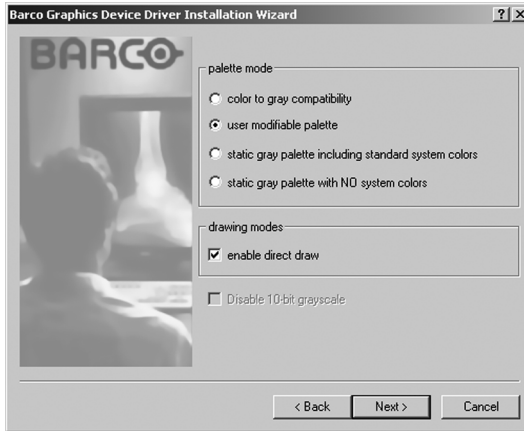

Figure 25
10. When the screen shown in figure 25 on page 46 appears select the palette mode which is the correct one for your viewing application. If you are uncertain use the default settings. You can change the palette mode later (See **"Palette Mode"** on page 55 of the BarcoMed Driver Tab section). If you want to enable DirectDraw check the **checkbox** next to "Enable Direct Draw".